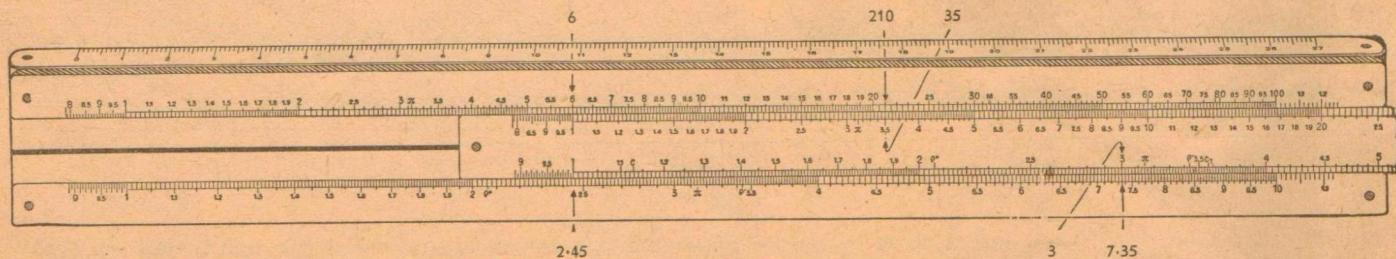

Fig. 5
- Examples, Fig. 5: 1.) $210 \div 35 = 6$